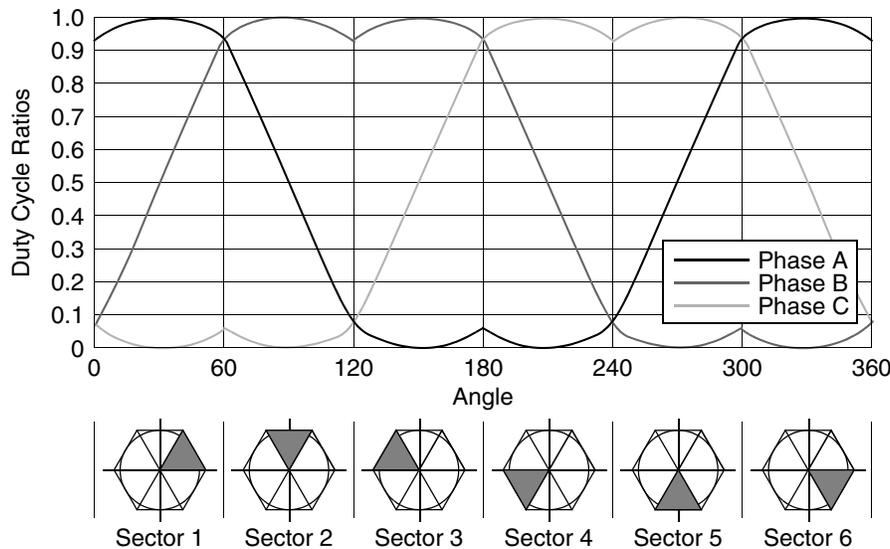

Figure 2. Standard Space Vector Modulation Technique
- **No Modulation (NO)** - No input parameters are transformed into phase duty-cycles. The phase duty-cycles must be provided.
- **Standard Space Vector Modulation (SVM_STD)** - The input parameters are orthogonal components of an applied motor voltage vector alpha and beta in the range (-1,1). Figure 2 depicts the modulation technique.